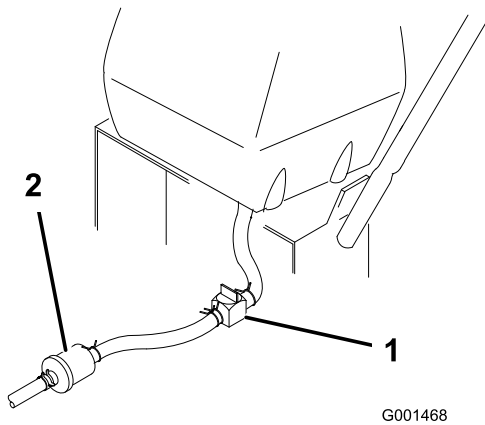

Figure 28
2. Close the fuel shut-off valve at the fuel tank (Figure 28).
3. Squeeze the ends of the hose clamp together and slide it up the fuel line away from fuel filter (Figure 28).
4. Pull the fuel line off the fuel filter (Figure 28). Open the fuel shut-off valve and allow the gasoline to drain into a gas can or drain pan.
3. Close fuel shut-off valve at the fuel tank (Figure 28).
7. Open fuel shut-off valve at fuel tank (Figure 28).